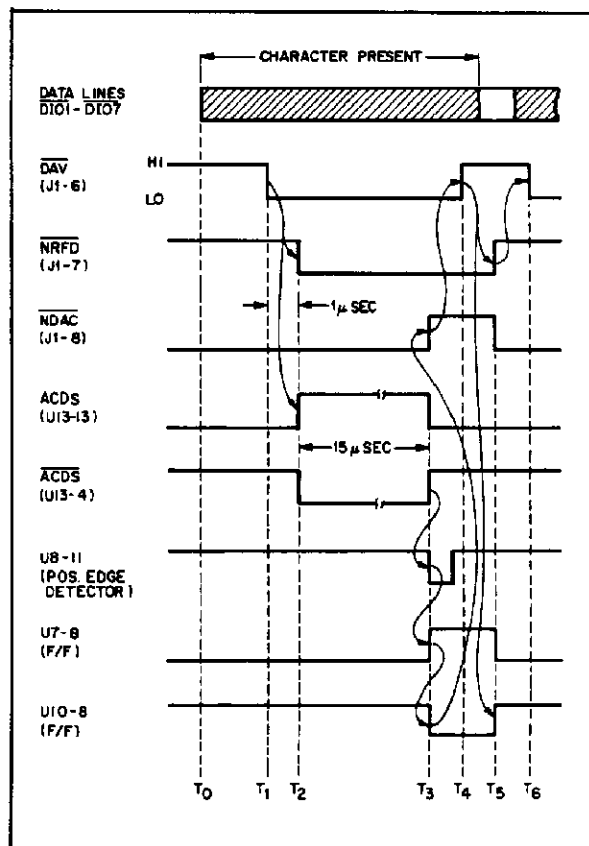
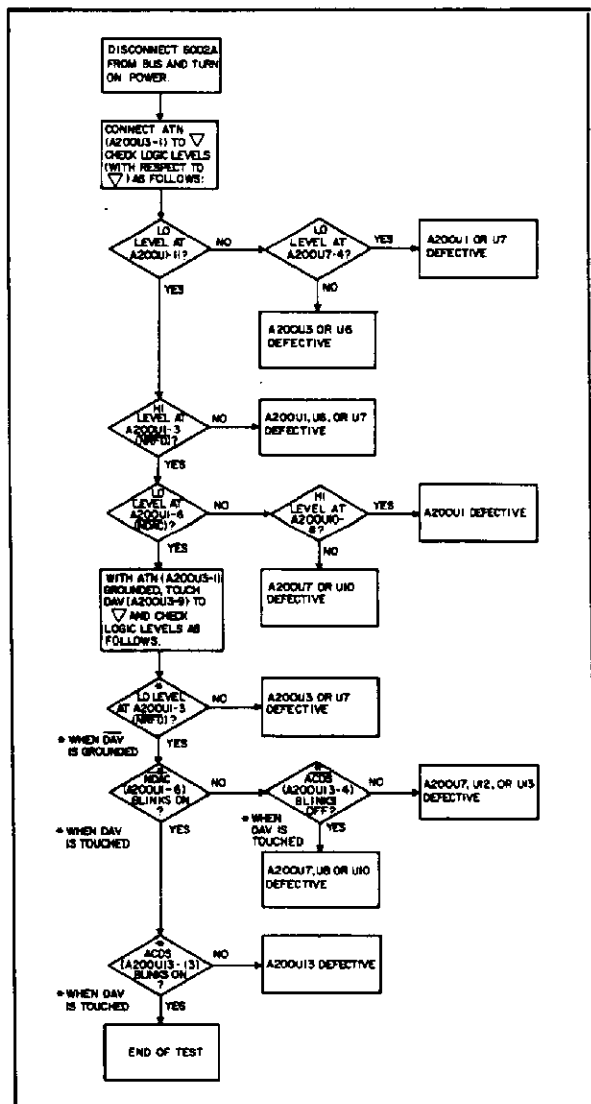

Figure A-6. Acceptor Handshake Signals, Timing Diagram
Figure A-11. Acceptor Handshake Circuits Troubleshooting Flow Chart
A-63 **Acceptor Handshake (Sheet 2).** The acceptor handshake circuit implements the 3-wire handshake cycle that occurs with each command or data character received on the bus data lines DI01-DI07. Unrecognized command characters (e. g., talk address) will be ignored but the handshake cycle between the controller and the 6002A will occur anyway. The 3-wire handshake lines are designated DAV (data valid), NRFD (not ready for data), and NDAC (data not accepted). The acceptor handshake circuit is enabled when the bus is in the command mode ( $\overline{\text{ATN}}$  is LO) or if the 6002A is in the listen mode (listen flip-flop set) and  $\overline{\text{ATN}}$  is HI (data mode). For either of the above conditions, the output of NAND gate U7-6 goes HI and NAND gate U1-11 goes LO enabling the acceptor handshake circuits. Figure A-6 illustrates the 3-wire handshake cycle timing sequence for each character received by the 6002A in the command and data modes.
**A-100 Acceptor Handshake Troubleshooting.** Figure A-11 provides a static check of the Option 001 acceptor handshake circuit. However, it is possible to have a condition where a faulty circuit would not be detected by performing these checks. If a timing problem is suspected, the acceptor handshake circuit must be checked dynamically. A dynamic test can be made by continuously programming the 6002A-001 to "listen" and observing the handshake signals on an oscilloscope. The handshake cycle timing relationships are shown in Figure A-6.